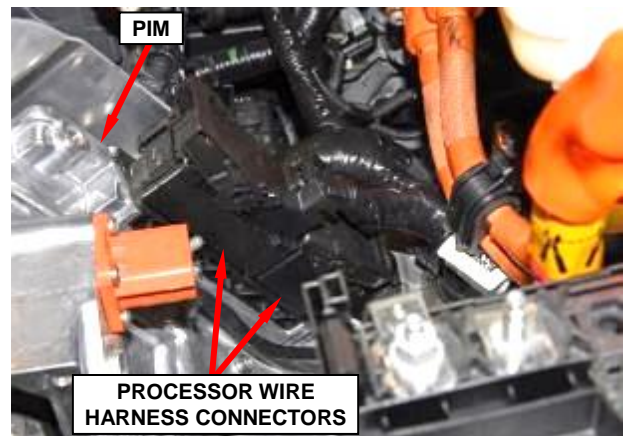

Figure 28 – Processor Connectors
54. Unlock and disconnect the processor wire harness connectors from the PIM (Figure 28). Reposition the connectors.
10. Connect and lock the processor wire harness connectors to the PIM (Figure 28).